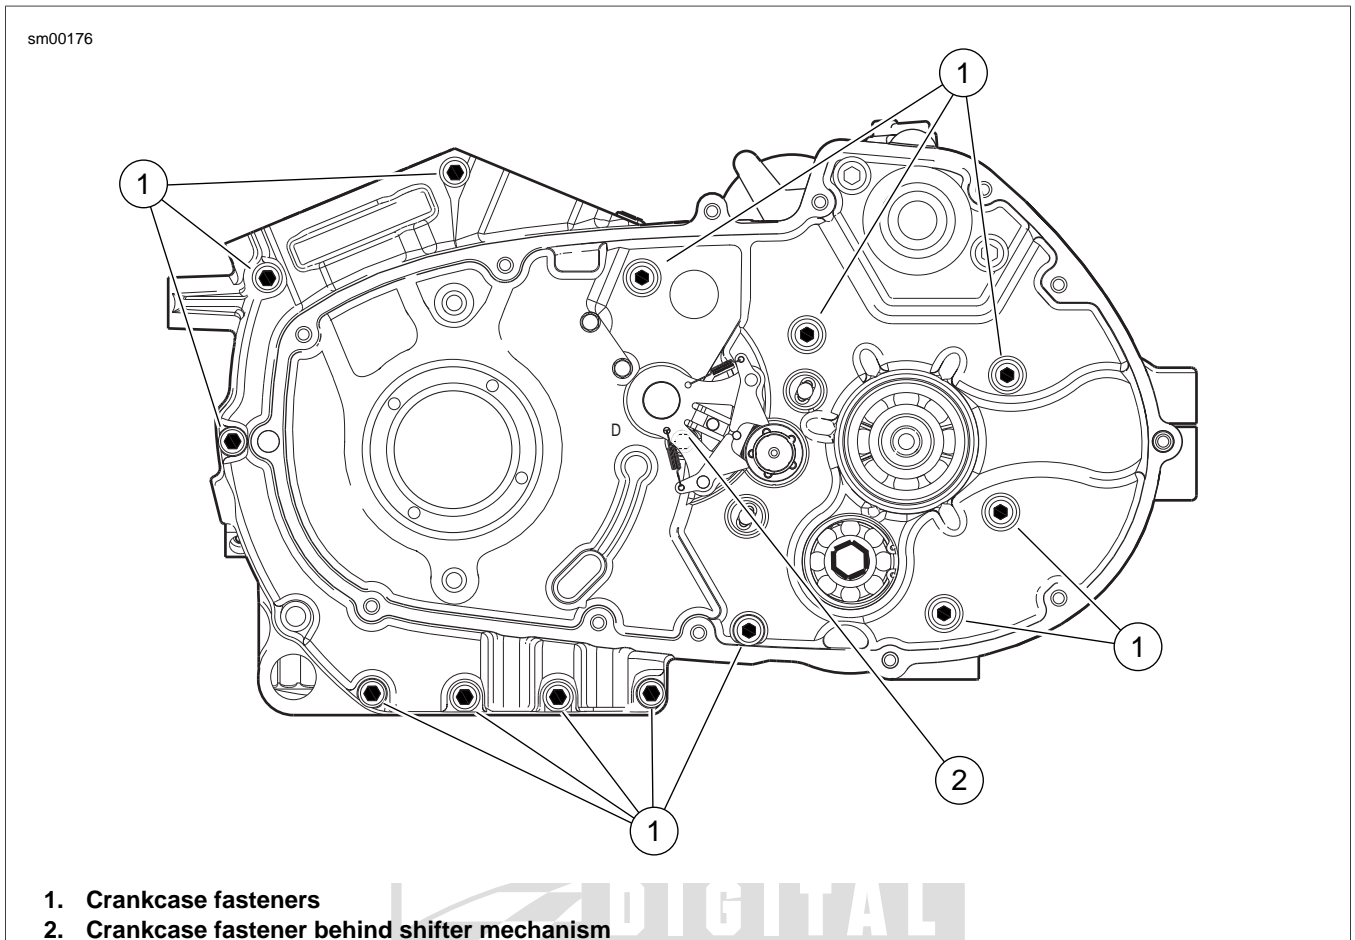

Figure 3-139. Crankcase Fasteners
7. See Figure 3-139. Assemble crankcase halves together.